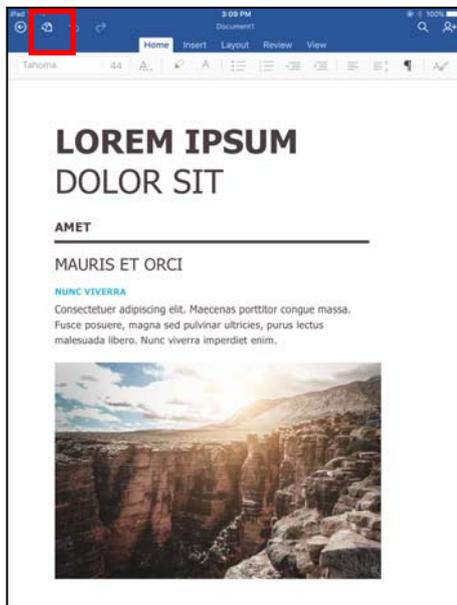

Figure 39
2.3 Click the menu icon on the upper left of the "Word" software interface, as shown in Figure 39;